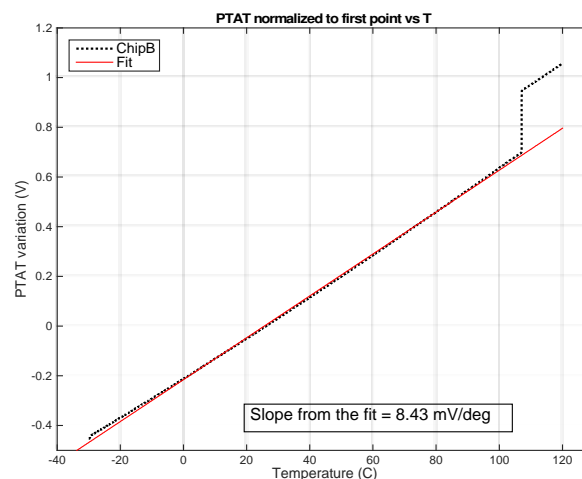

Figure 8: PTAT voltage vs Temperature.
The PTAT analog signal can be used to monitor the temperature (T) rise of the EPCS4001 ASIC during operation, to verify that the cooling is appropriate. The absolute value of the PTAT voltage at a given T can have a wide sample-to-sample variability. However, the PTAT rise rate with respect to T is very close to a straight line with a 8.5 mV/°C slope. This linear dependence is shown in Figure 8 in a nominal case. The discontinuity above 100°C is due to the OTP trip and a hysteresis being added to the overtemperature protection. Given the variability in the absolute value of the PTAT, it is possible to observe low-end saturation at 0V and variable offset with respect to temperature at which the output rises above 0V.